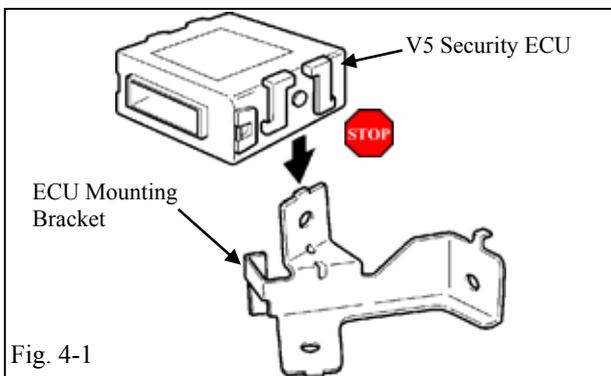

Fig. 4-1
- (a) Insert the V5 security ECU mounting bracket tab into the indicated bracket slot on the V5 security ECU. (Fig. 4-1)
- (1) Insert the mounting bracket into the correct slot; you have only one chance to install it properly.